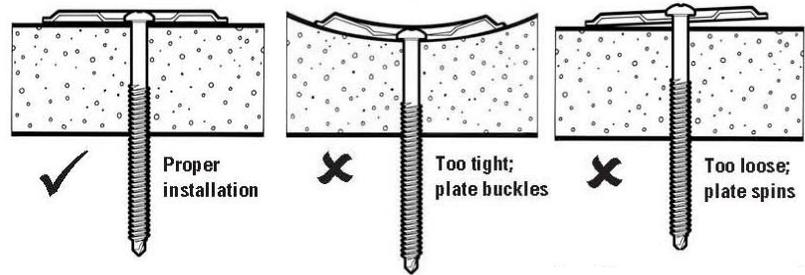

Figure 3. Proper Installation of Plate
1. Special care should be taken when fastening plates, so as not to overdrive or under-drive the fasteners into the structural deck (as illustrated in Figure 3). Overdriving the fasteners will result in a deformation or “cupping” of the plate and will result in an uneven or inadequate bond to the membrane, when welded. Under-driving the fastener will result in a loose plate with insufficient clamping force and a protruding fastener head that could cause damage to the membrane during welding and through normal roof traffic.